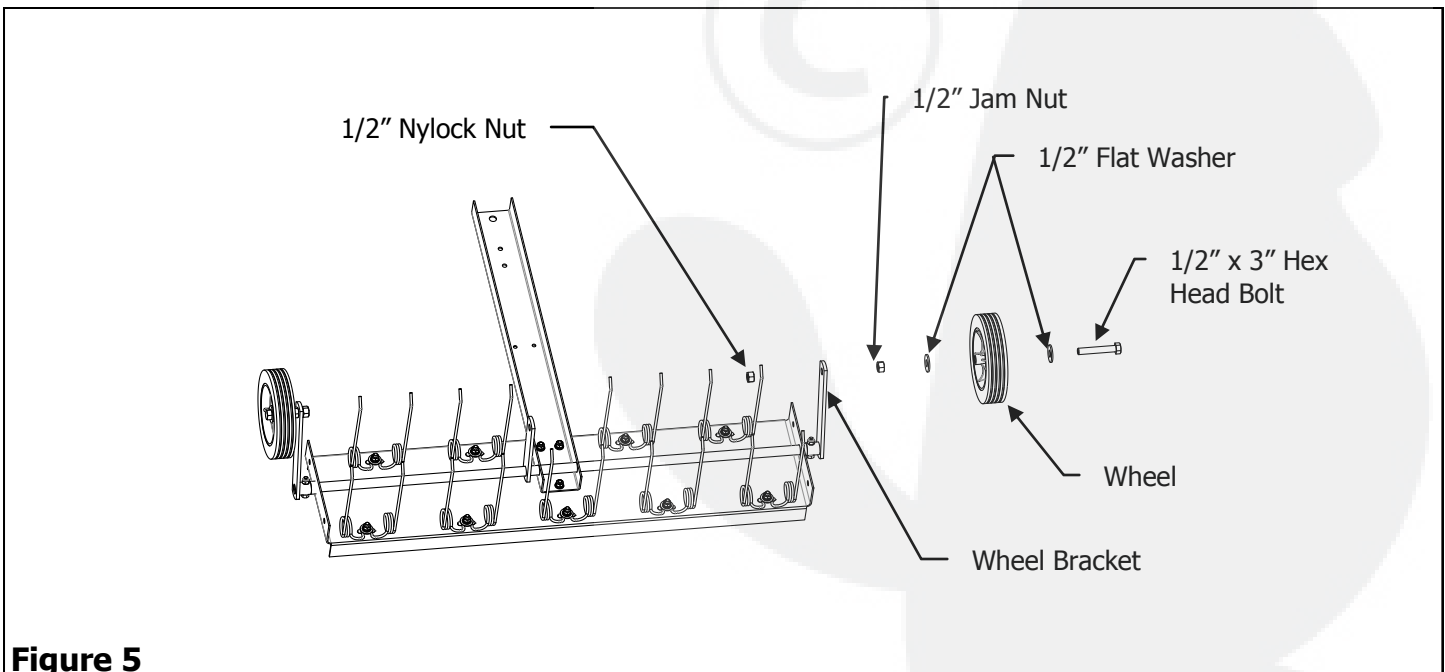

Figure 5
5. Place a 1/2" Flat Washer onto a 1/2" x 3" Hex Head Bolt, followed by a Wheel and then another 1/2" Flat Washer and secure with a 1/2" Jam Nut (Do not over tighten or the Wheel will not turn). Insert this assembly into the hole in the Wheel Bracket, then secure with a 1/2" Nylock Nut. Repeat process on the other side. See Figure 5.